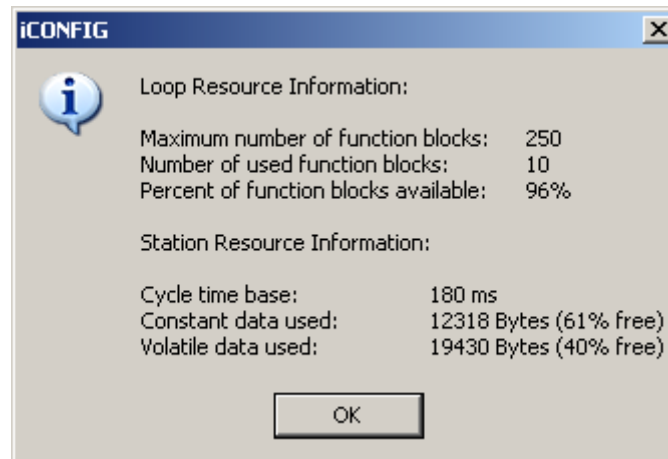

Figure 6-26 Loop Resource Information
1. Click the **Information** button while in a function block or ladder logic view. The Loop Resource Information dialog displays. See Figure 6-26